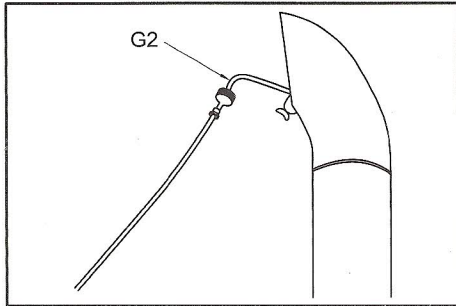

Fig. 05-05
(2) Measure with smoke-tester G2 ( Please see Fig. 05-05, 05-06 )